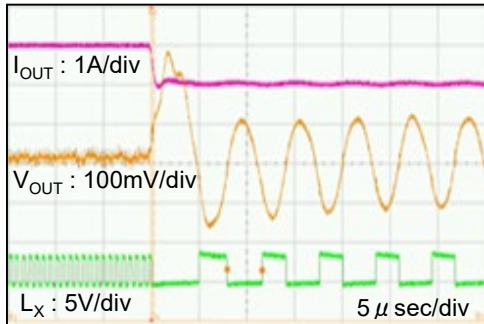
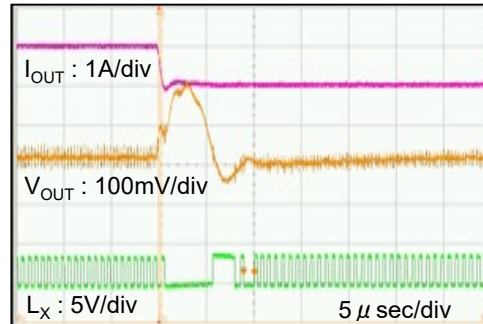
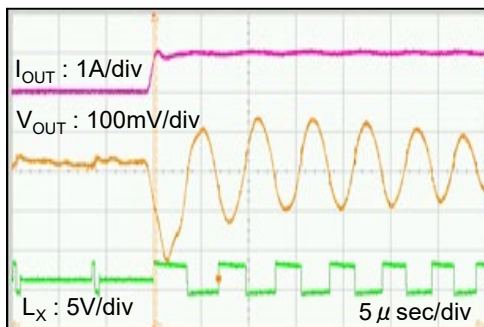
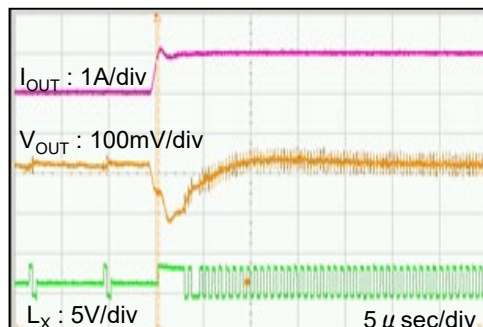

Fig. 14-1 Insufficient C_L ($T_a = -40^\circ\text{C}$, $C_L = 10\ \mu\text{F}$)
Fig. 14-2 Sufficient C_L ($T_a = -40^\circ\text{C}$, $C_L = 20\ \mu\text{F}$)
Fig. 14-3 Insufficient C_L ($T_a = -40^\circ\text{C}$, $C_L = 10\ \mu\text{F}$)
Fig. 14-4 Sufficient C_L ($T_a = -40^\circ\text{C}$, $C_L = 20\ \mu\text{F}$)
14. If the capacitance value is not sufficient by degrading C_L due to the low temp. condition and DC bias feature, 100% duty cycle might come up for the load transient condition. Add capacitance value for C_L if necessary. (Refer to Fig14-1, Fig14-2, Fig14-3, Fig.14-4)